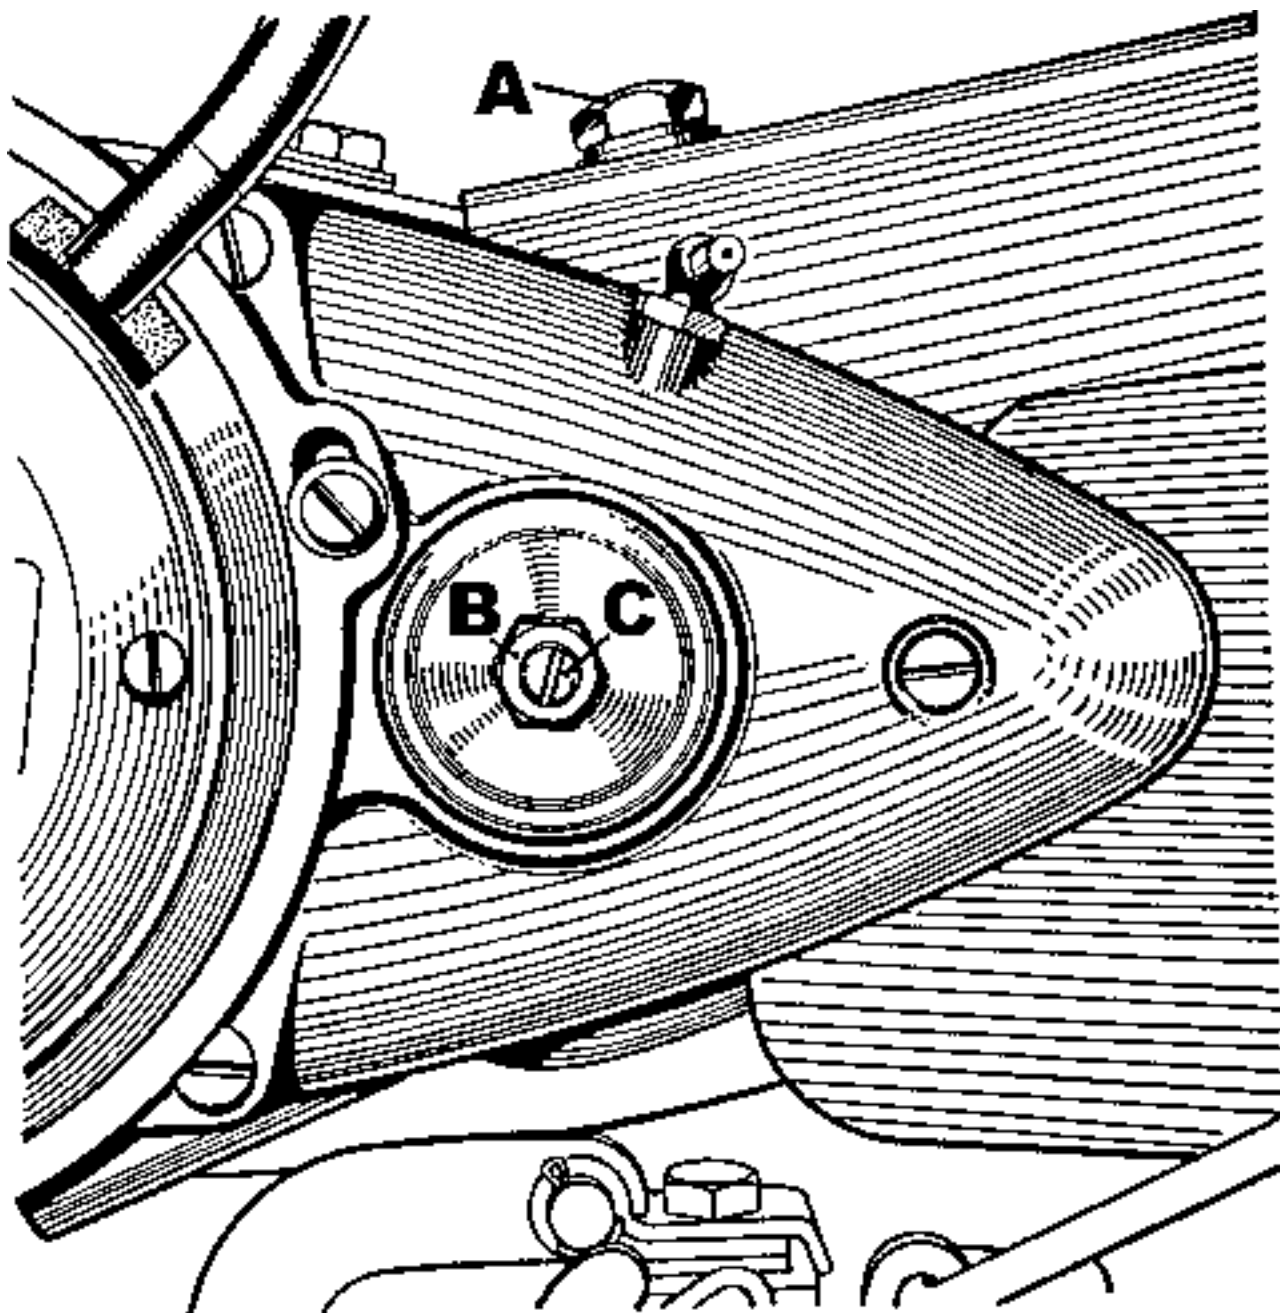

FIG. 8. *Clutch control adjustment.*
The clutch adjustment will be found at the left-hand end of the gearbox mainshaft (see Fig. 8) and it consists of an adjusting pin (C) screwed into the clutch withdrawal quick thread sleeve and a locknut (B) to secure it in position. This adjusting pin presses against the clutch withdrawal rod with a steel ball interposed. The withdrawal mechanism must at all times be so adjusted that there is a slight amount of play between the pin, the steel ball, and the operating rod, in order to ensure that the clutch springs may exert their full pressure on the driving and driven plates. If there is not sufficient play there will be a tendency for the clutch to slip continually owing to reduced spring pressure, and this in turn will cause over-heating and serious damage to the clutch itself. If the play becomes excessive difficulty will be experienced in changing gear, as the clutch may not fully disengage, in which case the control should be adjusted as explained below.
The gearbox, although built in unit construction with the engine, is self-contained as regards lubrication. Engine oil is used for lubricating the gears and primary drive and the correct level is determined by a dipstick incorporated in the gearbox filler plug. (A), Fig. 8.